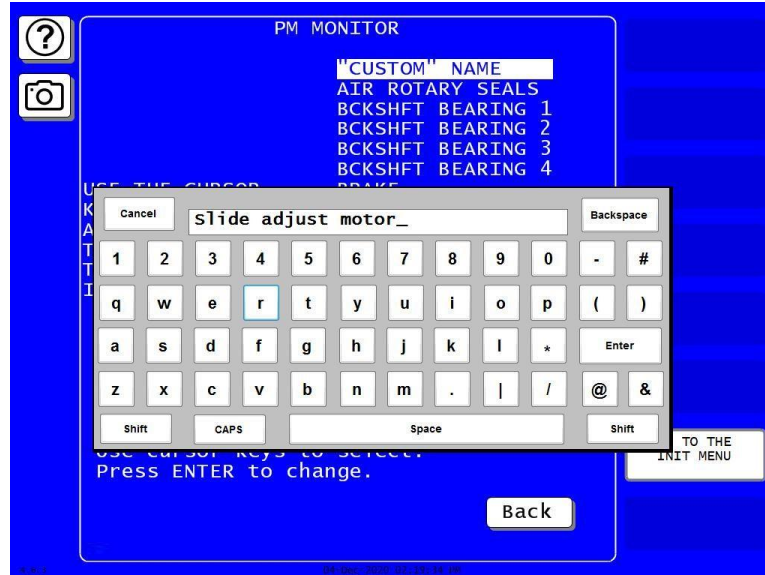

Figure A- 10. Alphanumeric Display Superimposed over PM Names Screen
- When the Alphanumeric Entry window displays (see Figure A- 10), key in the custom name. The custom name can be any combination of alphanumeric characters, symbols, etc. When finished, press Enter. To leave the window without creating a name, press Cancel.